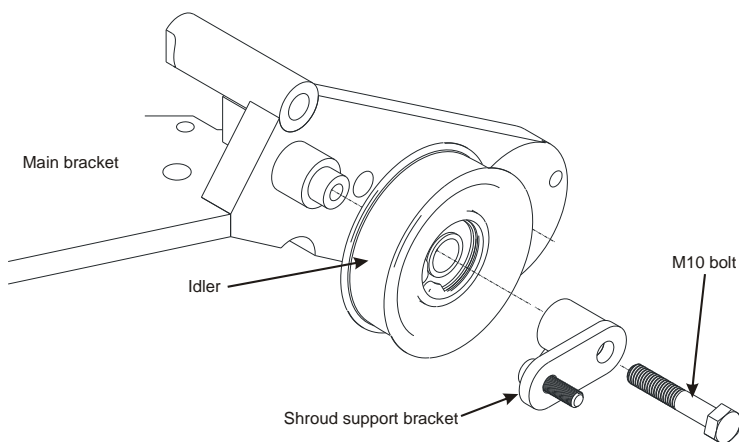

Figure 3.7
- ☐ Place the idler on the main bracket and install the fan shroud bracket so that it points toward the passenger side of the truck (Figure 3.7). Apply Loctite and fasten it in position with the M10 bolt.